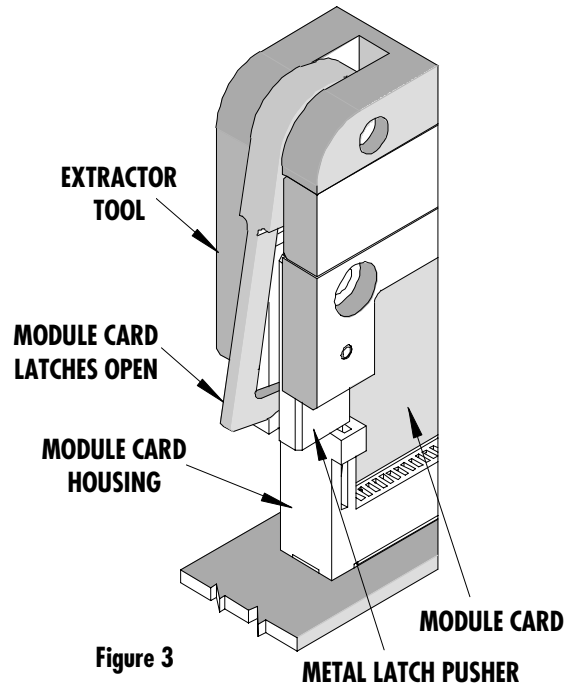

Figure 3
2. Push the extractor tool down and into the slots. The module card latches are spring-loaded and will open when extractor tool is engaged in the module card housing. See Figure 3.